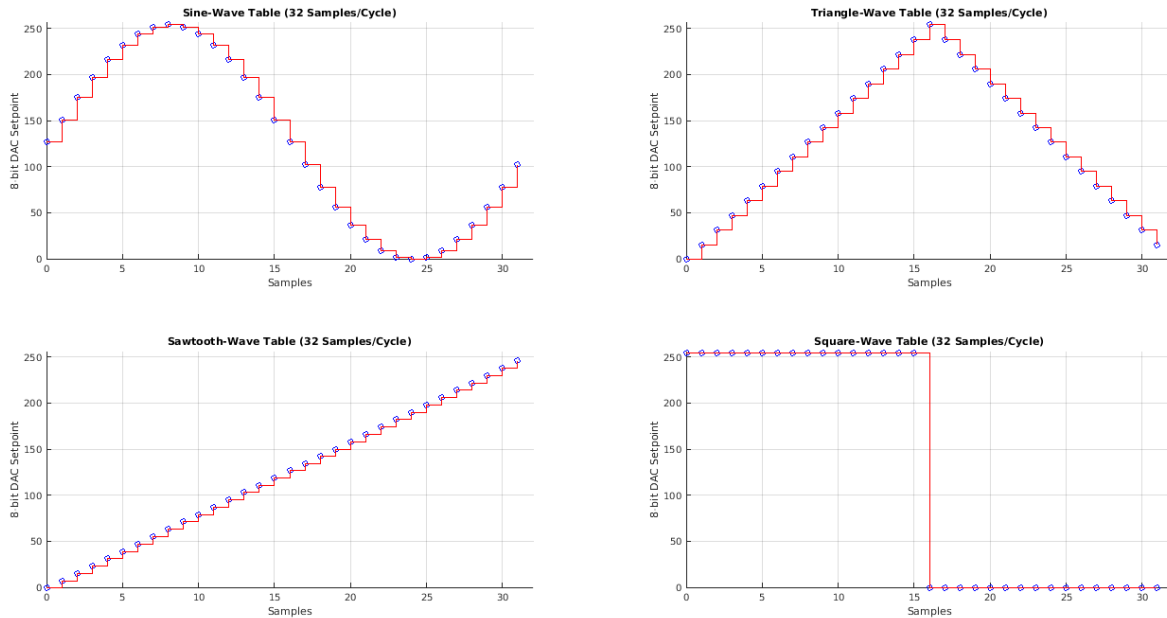

Figure 6.8: Graphical representation of the wave tables used in the lab assignment.
Through quantization, analog signals can be represented in software as a list of numerical values. Part of the in-lab assignment uses a *wave table* containing a digital representation of a single wave cycle. These tables are arrays, indexed by a counter that increments as the data is moved into the DAC. The rate at which the waveform samples are fed into the DAC determines the resulting output frequency. Figure 6.8 contains the c-code for tables of the basic wave types.
Figure 6.8 shows graphs of each table in figure 6.8. These tables use 8-bit data (256 quantization levels) with 32 samples per wave cycle. Increasing the number of samples per cycle would improve the smoothness of the output. However, increasing the number of samples also requires a much higher rate of moving data into the DAC to achieve the same output wave frequency.
The goal of this exercise is to generate an analog waveform that can be viewed using either an oscilloscope or the analog input of a Saleae logic analyzer. The DAC peripheral will be fed values from one of the lab wave-tables located in figure 6.8.
4. Copy one of the wave-tables in figure 6.8 into your application.